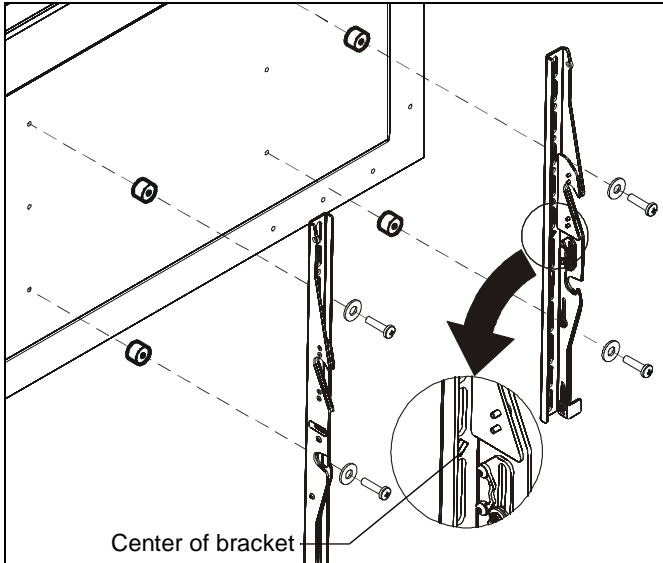

Figure 4
(See Figure 4)
2. Select correct screws, spacers (if necessary) and washers from the hardware bag (A-K) and attach brackets to back of screen. (See Figure 4)